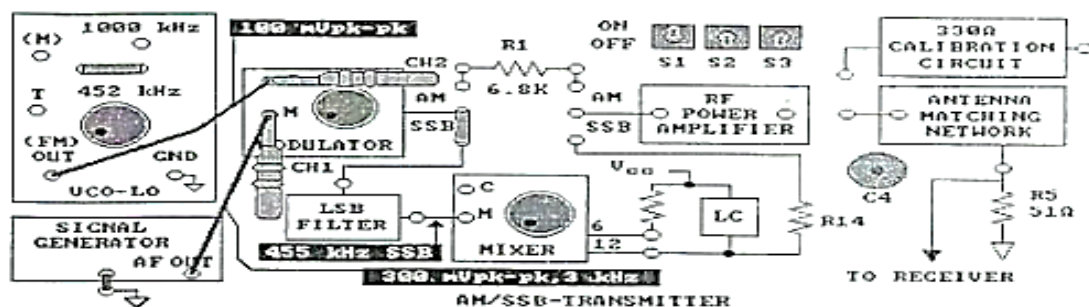

Figure 5-7.
1. To generate a 1000 kHz SSB signal from the TRANSMITTER to the receiver's RF STAGE, connect the AM transmitter circuit and the oscilloscope channel 1 and channel 2 probes, as shown in Figure 5-7.